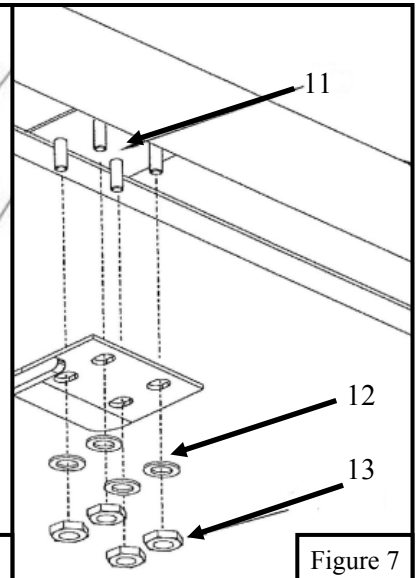

Figure 7
7. Take the drivers side step bar and place it onto the mounting bracket cradles; align the bolt plates (Item 11 with the mounting holes in the brackets and attach using (8) M6 hex lock nuts (Item 13), and (8) M6 flat washers (Item 12). **See Figure 7.** *Do not fully tighten at this time.*